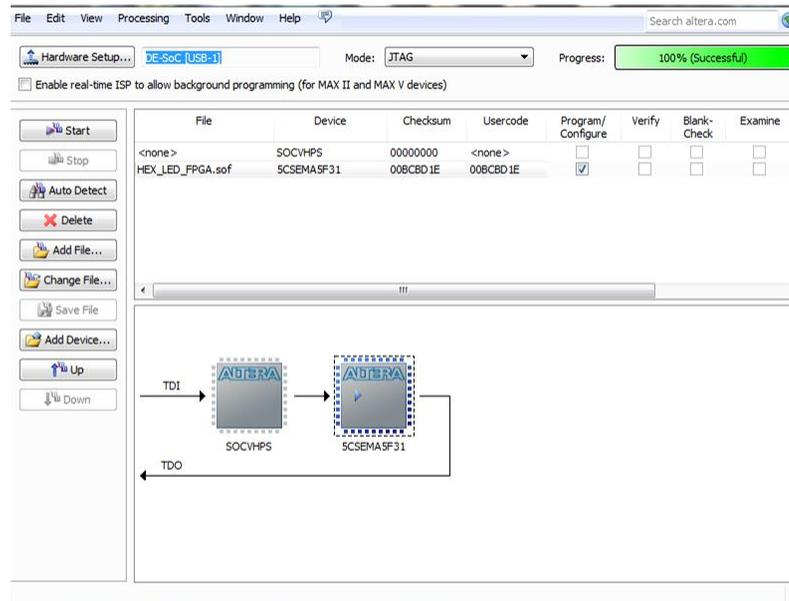

Fig. 9: Quartus Programmer Window
- Now you will have 3 chips/devices present in the programmer. Highlight the 5CSEMA5 device containing no .sof file (in the top window). Right click the device and select delete. You should now have the SOCVHPS and .sof device present in the programmer space as shown in Fig. 9.